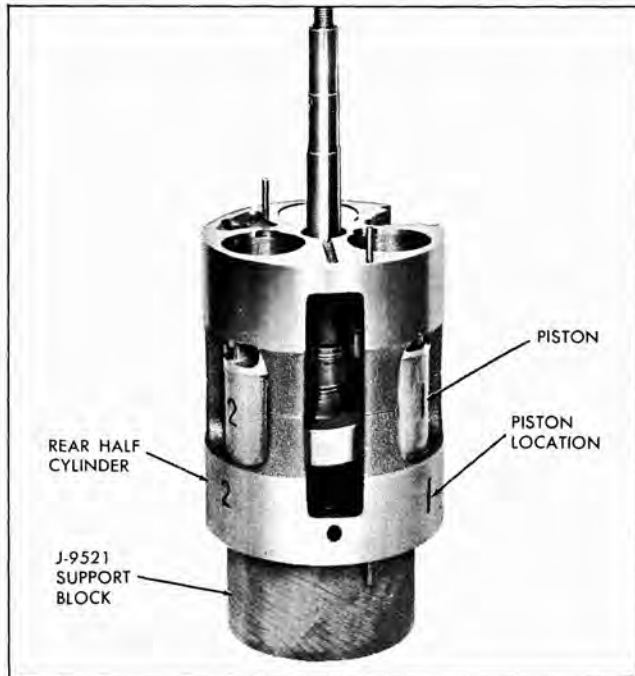

Fig. 5-73 Pistons and Cylinder Bores Numbered
1. Number pistons (1, 2 and 3) and their bores so parts can be replaced in their original locations (Fig. 5-73).